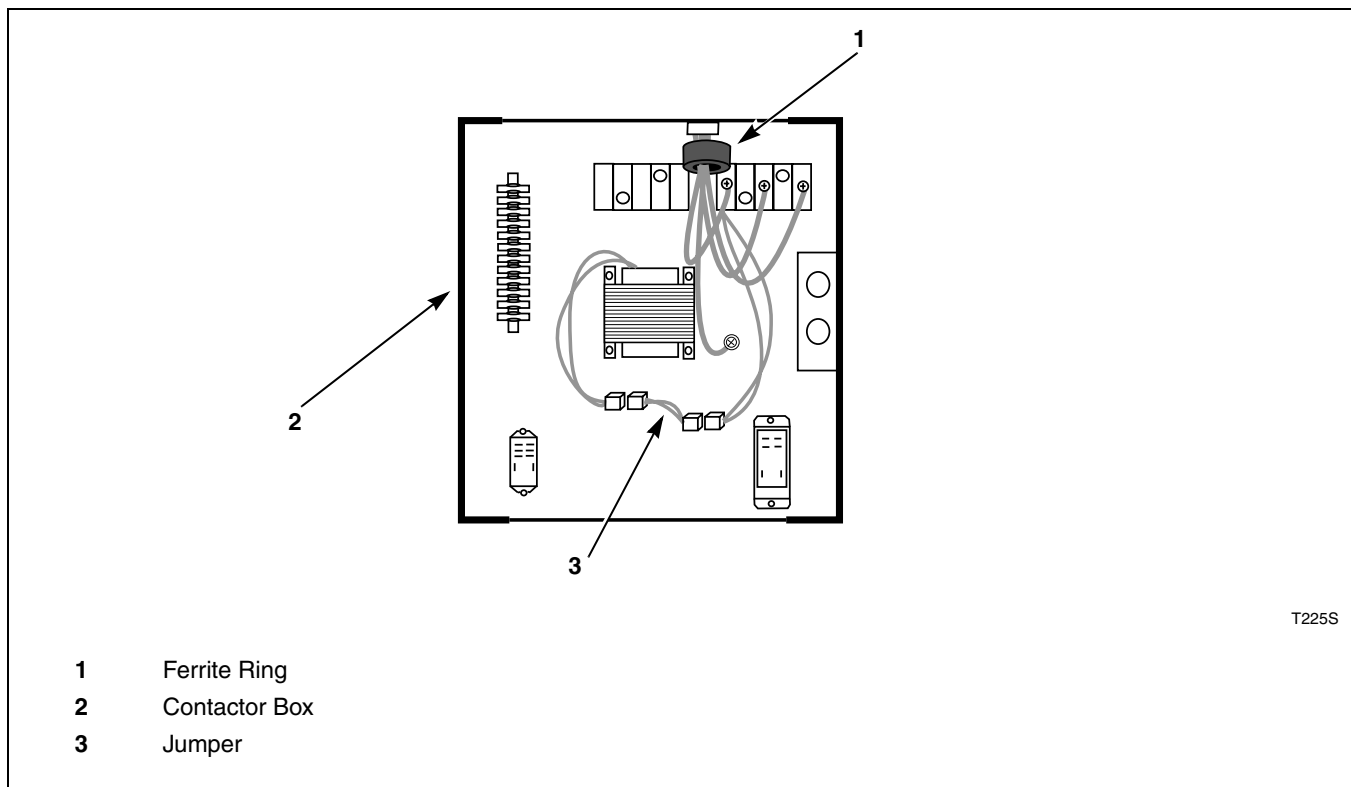

Figure 22
- Snap the ferrite ring closed over all the service leads inside of the contactor box as shown. It is important that the ferrite ring be installed inside the contactor box. Refer to *Figure 22*. Do not install the ferrite outside of the box or other area. Make sure that service leads are in the center of the ferrite before closing the ring so as not to pinch or damage leads.